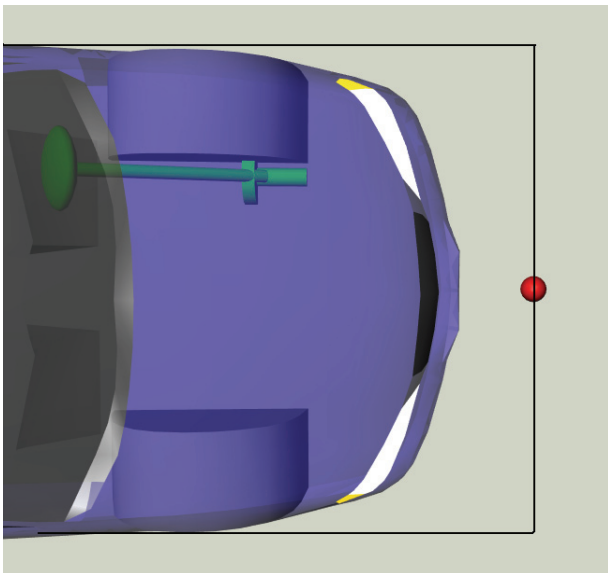

Figure 1 – Vehicle exterior dimensions are defined by red spheres in the Vehicle Editor.
4. If the vehicle exterior dimensions are not matched closely to the exterior dimensions of the vehicle geometry (established by the red spheres in the Vehicle Editor; see Figure 1), the CDC and damage profile calculations suffer, perhaps significantly, depending on the difference between the rectangle dimensions and the mesh. Acceleration and delta-V calculations may also suffer, especially if there is pre-impact speed change not associated with collision (i.e., from throttle or braking).
5. EDSMAC4 uses the dimensions defined by the vehicle rectangle (see Figure 1) when its collision model calculates collision forces. CD-DS uses the actual vehicle mesh. Thus, it is possible for CD-DS to sense the start of a collision several timesteps AFTER the collision started. Because CD-DS uses the initial contact period to establish the primary contact surface (e.g., Front, Right, Back or Left), the primary contact surface may not get set. If this occurs, it is not possible to generate a CDC or damage profile for the vehicle.
6. CD-DS uses the exterior vehicle dimensions (again, see Figure 1) to sense that a collision is eminent. This, in turn, starts the acceleration and delta-V calculations. This approach works fine when the force is calculated using a mesh (as it is in SIMON/DyMESH), as there is almost always at least one timestep before the collision. However, when the force and resulting speed change are based on the vehicle rectangle (as it is in EDSMAC4), the simulation time accumulated before impact gets included into the delta-V and acceleration calculations. Thus, the delta-V and acceleration displayed by CD-DS may be too large (the error is dependent upon the length of simulation time and the change in speed before collision).